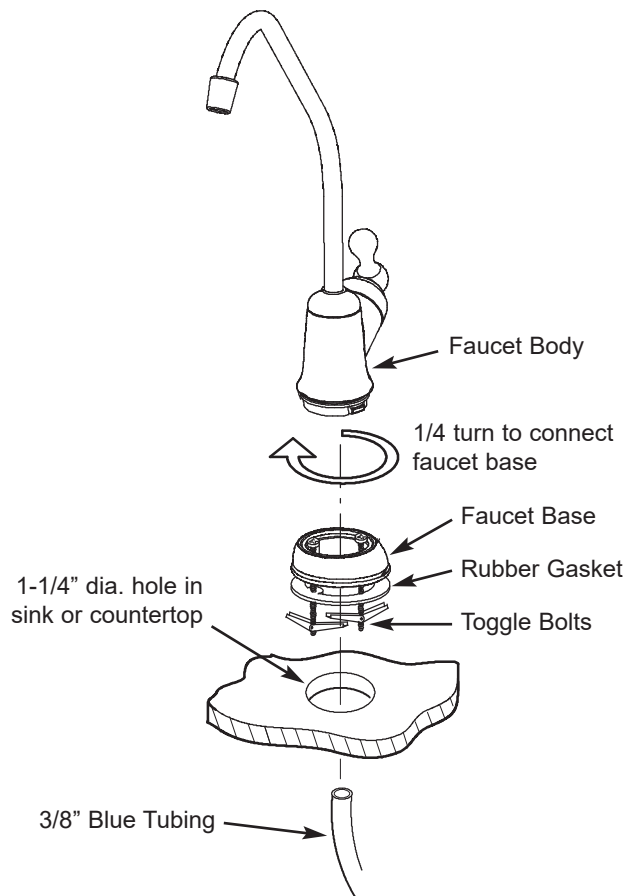

Fig. 3
1. Mount faucet base to sink hole until the faucet base is flat against the sink surface. The rubber gasket should be between the sink surface and the faucet base. See Figure 3.
4. Mount the faucet body on to the faucet base, 1/4 turn. See Figure 3.